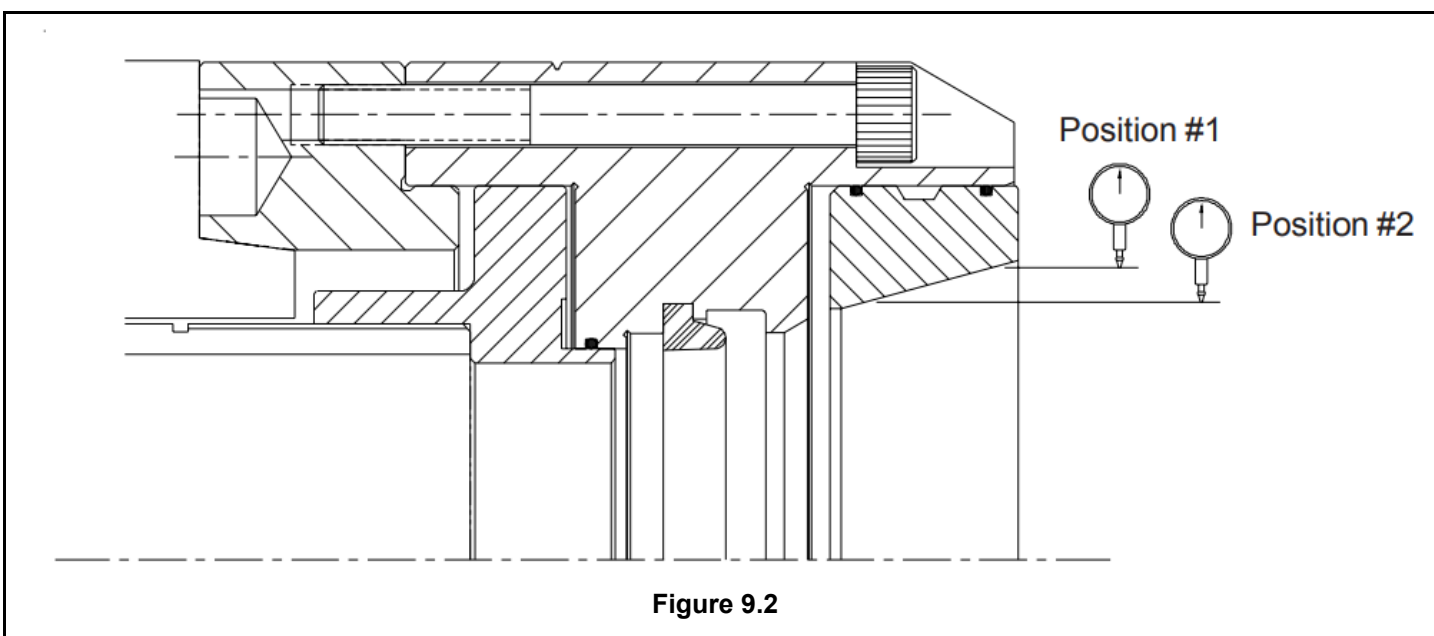
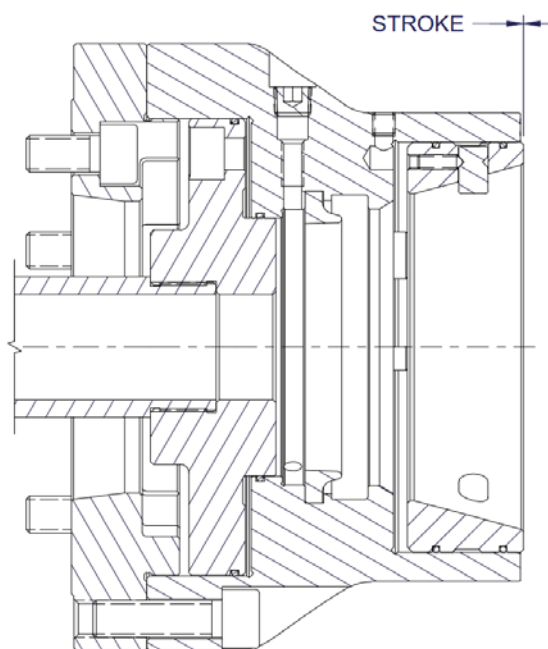

Figure 9.2
Figure 9.3
2. Make certain that the mounting surfaces of the chuck body and adapter plate are clean and free of nicks or burrs that could prevent the proper seating of the chuck body. Also make sure the (4) radial adjusting screws are not protruding into the locating diameter of the chuck body.
6. Indicate the ID runout of the collet taper as shown in position #1 in Figure 9.2. Make adjustments to the (4) radial adjusting screws so that the runout of the collet taper is within .0002" (0.005mm). Note: CB-NS collet chuck assemblies do not contain radial adjusting screws, and must be adjusted by loosening the mounting bolts and tapping the chuck assembly with a plastic hammer.
7. Before tightening the mounting bolts, measure the runout of the collet taper on position #2 in Figure 9.2. If the chuck body is properly seated on the adapter plate, the runout measured on position #2 should be the same as position #1. If the runout measured in position #2 exceeds the runout of position #1 by more than .0001" (0.0025mm), remove the chuck body from the adapter plate and repeat this mounting procedure.
8. After the runout of the collet taper has been adjusted, tighten the mounting bolts to the torque specifications given in Section 4. Also make sure to tighten all (4) radial adjusting screws.
9. Actuate the draw tube to verify that the chuck is functioning correctly by measuring the stroke of tapered sleeve as shown in Figure 9.3.